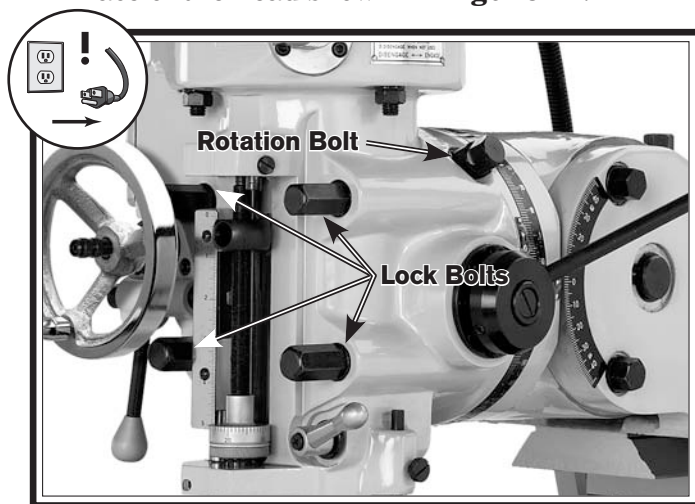

Figure 24. Head rotating controls.
2. Loosen the four rotation lock bolts on the face of the head shown in **Figure 24**.